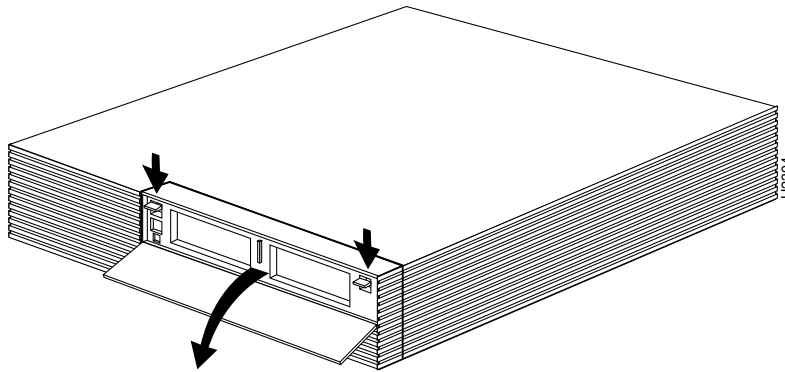

Figure 4-1 Removing the Front Bezel
**Step 1** Remove the front bezel by pressing down on the tabs at each side. (See Figure 4-1.)